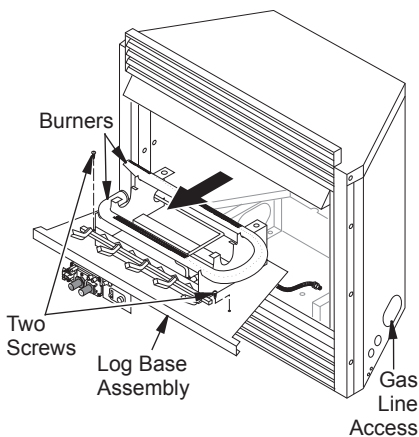

Figure 15 - Removing Log Base Assembly From Fireplace Insert
2. Remove screws that attach log base assembly to fireplace insert (see Figure 15, page 14). Carefully lift up log base assembly and remove from fireplace insert (see Figure 15, page 14).
3. Route gas supply line through access opening of fireplace insert (see Figure 15).